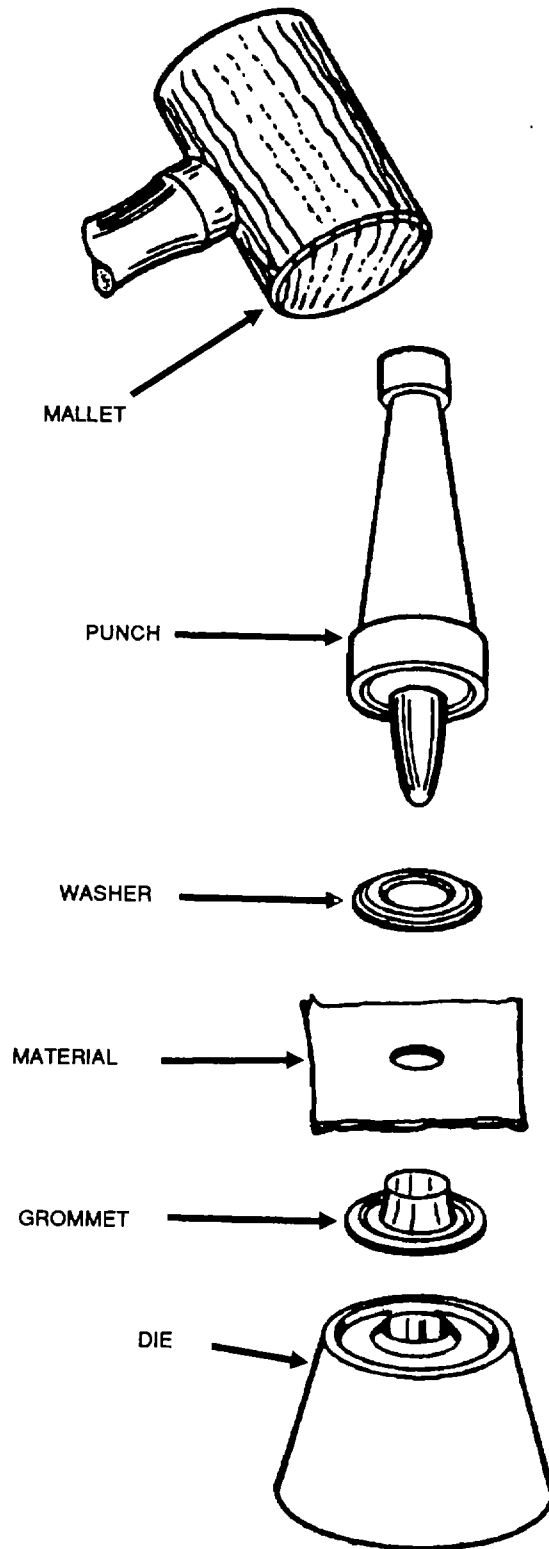

Figure 2-3. Installing an Eyelet-Type Grommet, Typical.
- (1) Cut the crimped edge of the original grommet at three or four points using diagonal nippers. Pry the cut crimped edges back and remove the original grommet and washer.
- (2) If the fabric area around the original grommet has been damaged, repair the area by darning as outlined in paragraph 2-12, using the specifics in Table 24. However, if darning does not provide a satisfactory repair, construct a suitable sized reinforcement of the same type material as that in the original grommet location and secure the reinforcement to the inside of the damaged area using the specifics in Table 24 and patching procedures outlined in paragraph 2-12. After the reinforcement has been secured in place, darn over the reinforced area using the specifics in Table 2-4.
- (3) Using a grommet hole cutter, cut a suitable sized hole in the reinforcement material to accommodate the applicable size grommet. Ensure that the hole is cut with a slightly smaller diameter than the diameter of the replacement grommet barrel.
- (4) Insert the barrel of the replacement grommet through the hole cut in (3) above, and ensure the grommet flange is located on the same side of the material as the original grommet.
- (5) Position the grommet on a comparable sized die with the barrel facing up and place the washer over the grommet barrel.
- (6) Using a punch and mallet (Figure 2-3), spread the grommet barrel by hammering until the barrel collar is flattened and rolled down smooth on the washer.
- (7) Check the seating of the grommet and whether the grommet can be turned by hand, repeat the procedure in (6) above until the grommet is firmly seated.